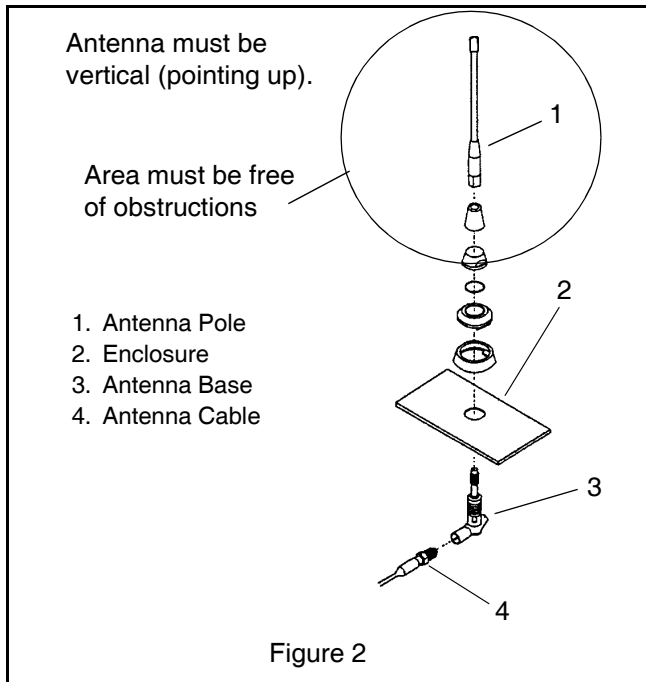

Figure 2
If it is necessary to mount the receiver inside a panel enclosure, an external antenna is required. Mount the antenna onto a metal surface that has the same ground as the receiver. The antenna should be pointing upward. The area around the antenna should be free of obstructions, especially metal. See Figure 2.
3. Assemble the antenna as shown in Figure 2.